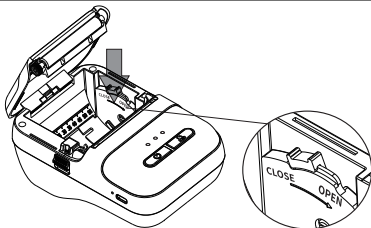

fig.3
- ③ Pull out part of the paper roll and close the top cover, make sure both sides of the cover are closed. (Note: Face the serrations and tear the label paper down) (**fig.3**)
Click to open the downloaded print driver package.(fig.3)